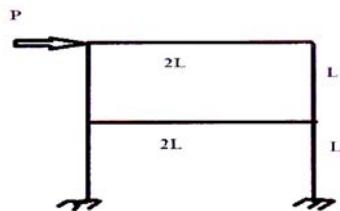

Fig 1
- b) What are approximate methods of analysis Compute the critical load of the frame shown in figure 1. All the members have the same El. [12]